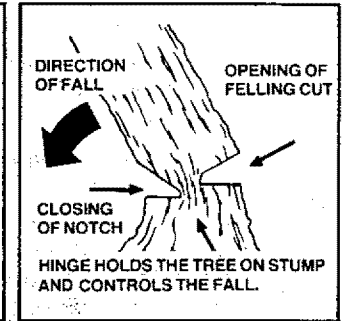

Figure 27
- c. Leave enough uncut wood between the felling cut and the notch to form a hinge. Figure 27.